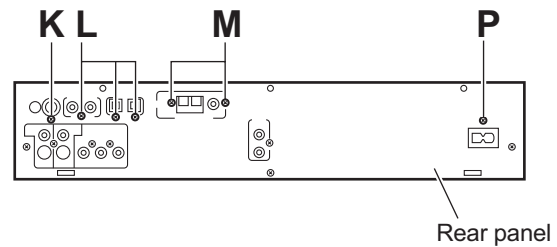

Fig.10
- (3) From the back side of the main body, remove the screw **K** and three screws **L** attaching the audio & digital input board to the rear panel. (See Fig.10.)
- (4) Take out the audio & digital input board from the main body.
- (2) From the back side of the main body, remove the two screws **M** attaching the tuner to the rear panel. (See Fig.10.)
- (3) Take out the tuner from the main body.
- (3) From the back side of the main body, remove the screw **P** attaching the power supply board to the rear panel. (See Fig.10.)
- (4) Take out the power supply board from the main body.